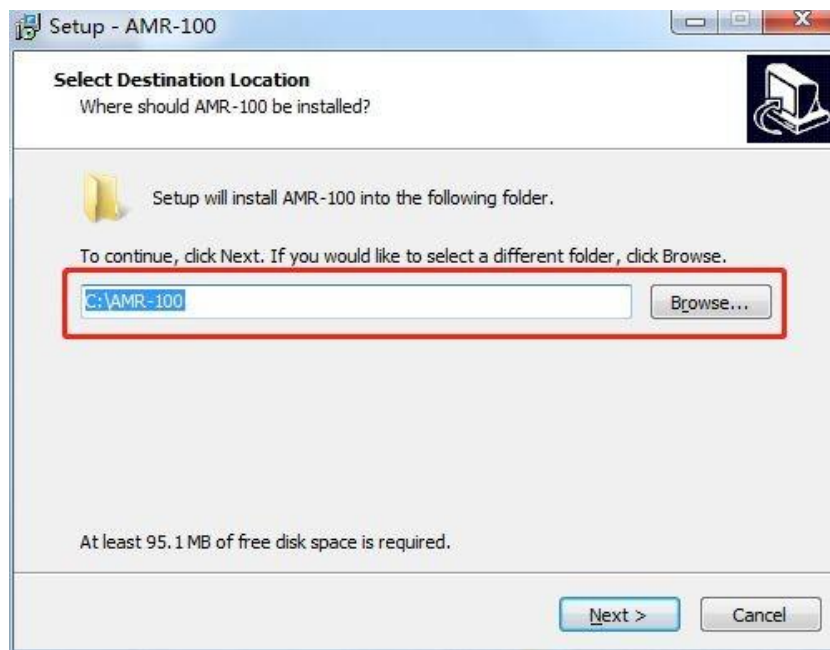

Fig 2
2. Choose installation path way, then click “Next”, as Fig 2.